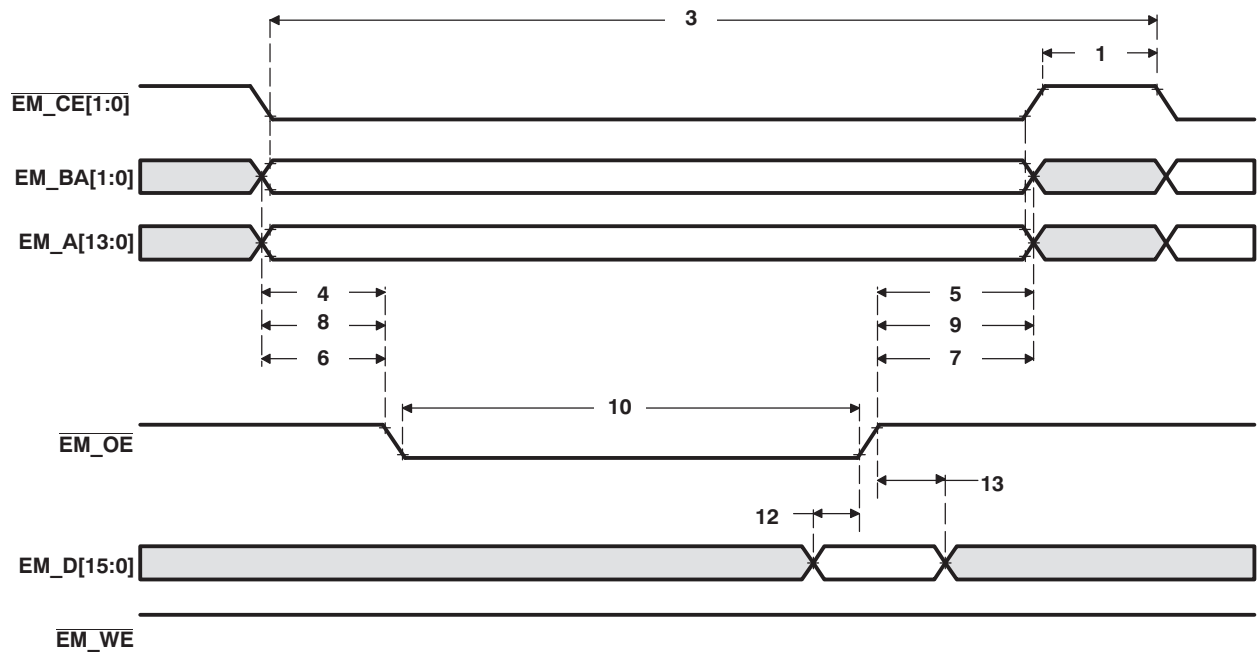
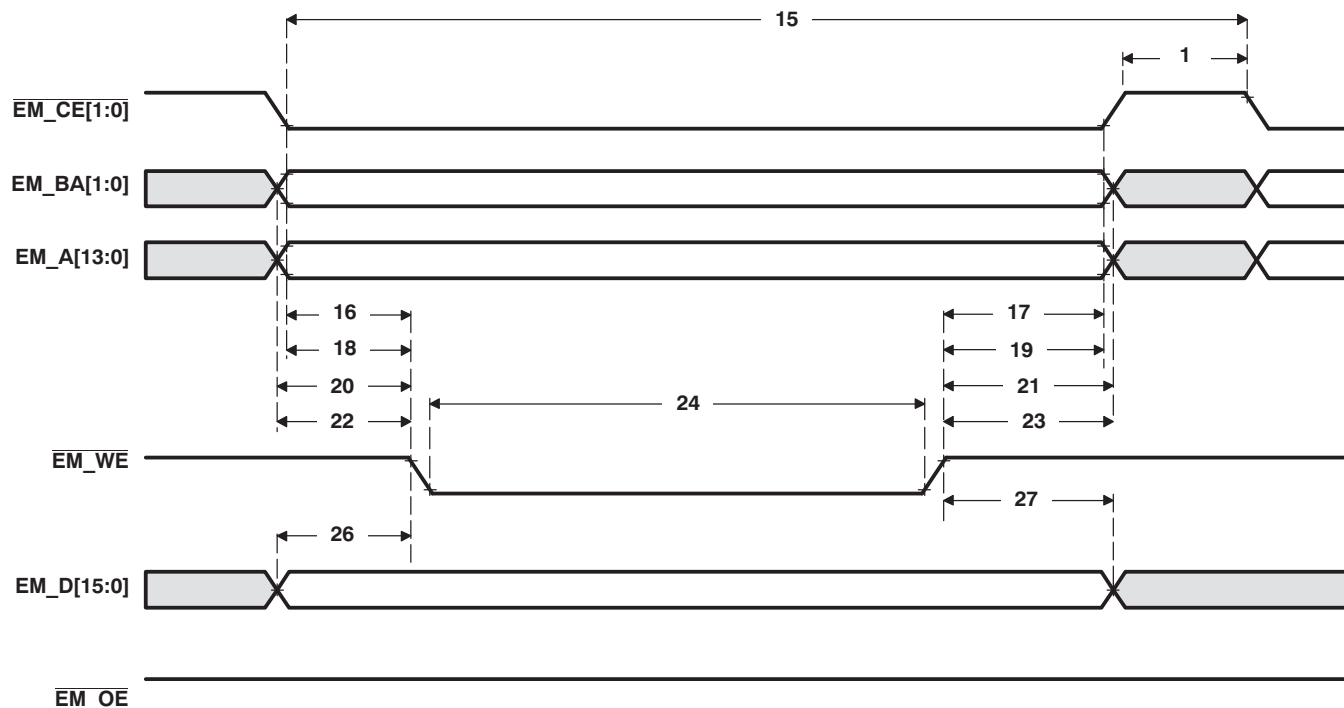

Figure 5-14. Asynchronous Memory Read Timing for EMIF
Figure 5-15. Asynchronous Memory Write Timing for EMIF
Table 5-13. Timing Requirements for Asynchronous Memory Cycles for AEMIF Module⁽¹⁾ (see Figure 5-14 and Figure 5-15)
Table 5-14. Switching Characteristics Over Recommended Operating Conditions for Asynchronous Memory Cycles for AEMIF Module^{(1) (2) (3)} (see Figure 5-14 and Figure 5-15)
Table 5-14. Switching Characteristics Over Recommended Operating Conditions for Asynchronous Memory Cycles for AEMIF Module ⁽¹⁾ ⁽²⁾ ⁽³⁾ (see Figure 5-14 and Figure 5-15) (continued)
(4) During OneNAND Mode the EM_CLK is driven by 1/2 PLLC1SYSCLK2 clk.
Table 5-14. Switching Characteristics Over Recommended Operating Conditions for Asynchronous Memory Cycles for AEMIF Module ^{(1) (2) (3)} (see Figure 5-14 and Figure 5-15) (continued)